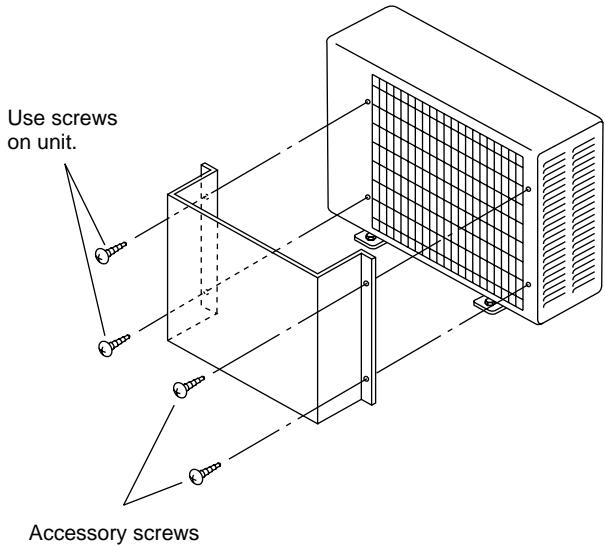

Fig.6d
1. Use the 2 screws on the unit for installation on the left side. (Fig.6d)